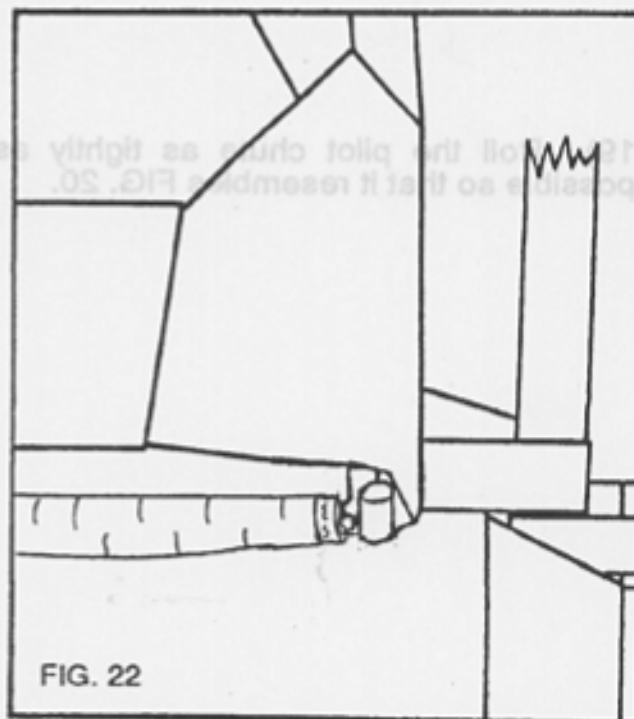

FIG. 22
20) Using one or two fingers, push the bridle into the pouch a little at a time until none of the bridle is exposed. Then stuff the rolled pilot chute into the pouch until only the handle is visible at the mouth of the pouch. FIG. 21 shows the pilot chute in the pouch on the right legstrap; FIG. 22 shows the pilot chute in the pouch on the bottom of the container. *Do not push the handle all the way into the pouch; that makes it difficult to find when you need it.*